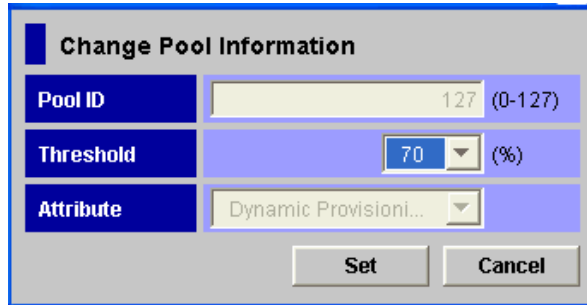

Figure 5-5 Change Pool Information Dialog Box
2. In the pool tree on the upper left of the window, right-click the selected pool, then select **Change Pool Information** to open the Change Pool Information dialog box (see Figure 5-5). If the pool usage level is 95% or higher, the pop-up menu will not be available.